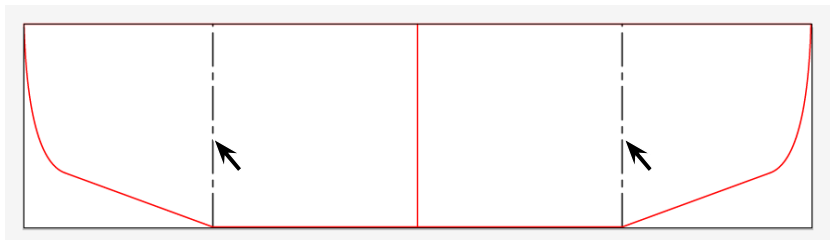

Fig. 41
Step 6. Select **both bend lines** and change to **Black .5 Stroke**, **Fig. 41**.